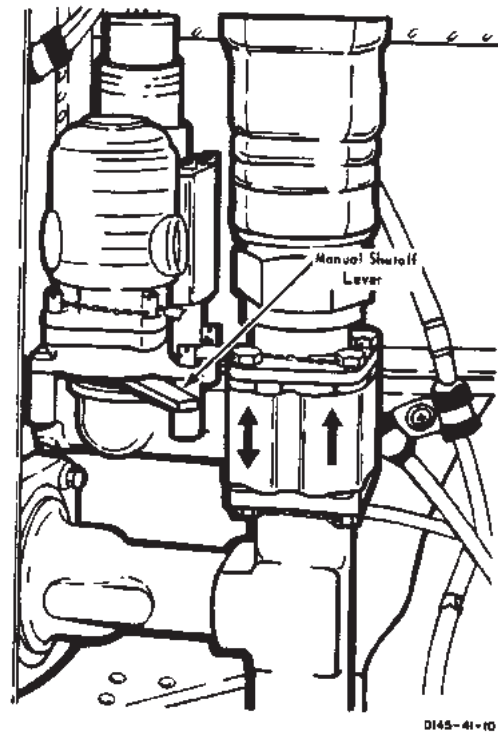

Figure 2-4-2. Engine Fuel Valves, Sta. 498
a. *Engine Fuel Valves.* One engine fuel valve (fig. 2-4-2) is in the fuel supply line to each engine. The valve is electrically operated by the FIRE PULL handles and manually by a lever on the valve. They are located at sta. 498 and labeled FUEL VALVE # 1 ENGINE and FUEL VALVE # 2 ENGINE.